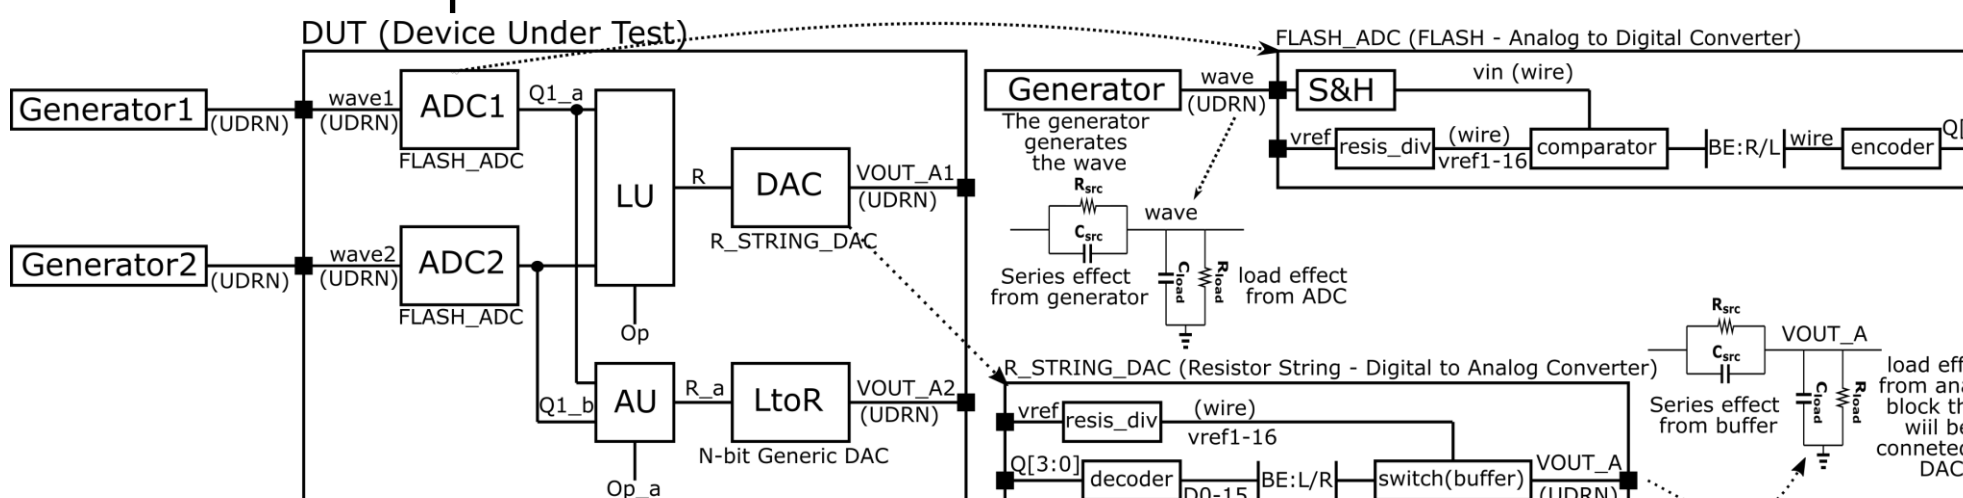

Figure 13: Analog-Mixed Signal DUT, the structure of FLASH_ADC & R_STRING_DAC
The DUT in Figure 13 has the following devices: two Generators, two ADCs of 4-bit FLASH_ADC, Logical Unit (LU), Arithmetic Unit (AU), one DAC of 4-bit R_STRING DAC and 4-bit generic DAC.
- The outputs of the two ADCs will go through the Logical Unit (LU) and the Arithmetic Unit (AU) which are purely digital devices. Then, the LU output will go through the R_STRING_DAC and the DAC's output is a resolved net. Inside the DAC there are BEs inserted of L2R type. The DAC sub-blocks are structurally wire-based connections, so a wire to interconnect is now required. The AU output will go through the n-bit DAC acts as a generic DAC and its output is also resolved net.